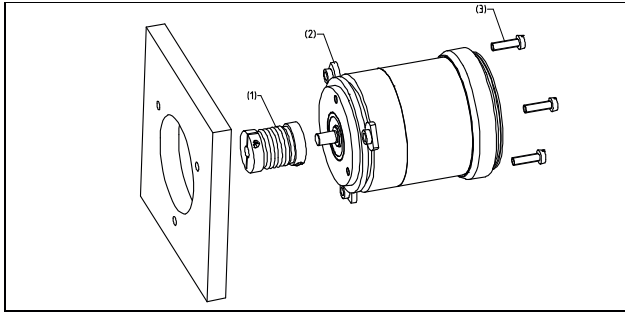

Figure 10-2: Servo flange (Installation with servo clamps)
- With servo clamps on the servo groove (Figure 10-2)